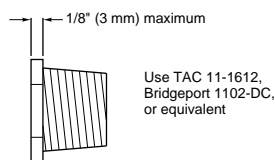
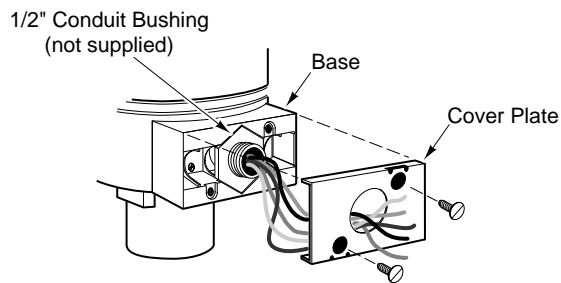

Figure-9 1/2" Conduit Bushing.
Figure-10 Conduit Bushing and Cover Plate Installation.
2. Slip the actuator's leads through a standard 1/2" conduit bushing (Figure-9, not supplied) and the knockout hole in the cover plate. Refer to Figure-10.
*Note:* As shown in Figure-10, the hole in the cover plate of the actuator conduit housing is sized to accept both British standard M20 (20 mm) conduit connectors and 20 mm-to-PG16 adaptors for use with DIN PG16 connectors. (Follow the steps for installing the conduit box to the actuator.)